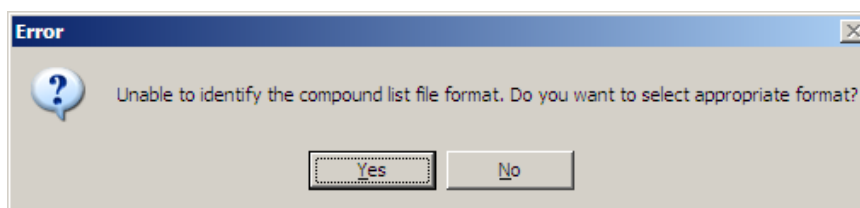

Figure 3-19: Import pick list error message
- If the pick list contains extra header lines, no header lines, or header lines that the software does not recognize, the software displays an error message. See Figure 3-19.